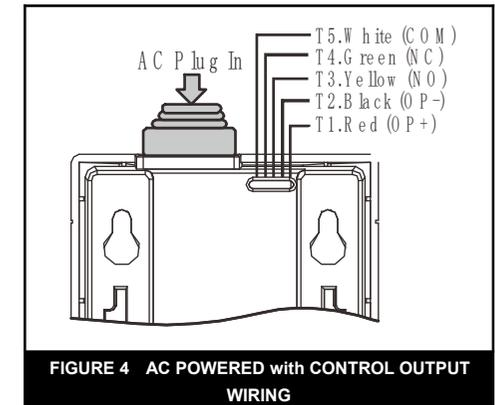

FIGURE 4 AC POWERED with CONTROL OUTPUT WIRING
3. AC Power with control output module has continuous or pulse voltage output by terminal T1 (OP+) and T2 (OP-), the default setting is pulse voltage output. The voltage output setting can be selected by jump JP1. DCF option (Default setting) is pulse voltage output, JXS is continuous voltage output. Voltage output module relay output is capable for load of 1A@220AC, if the current is exceed the limitation, one intermediate relay should be used. Please see figure 4.